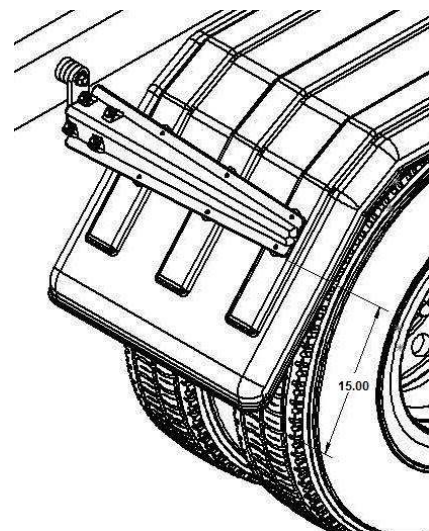

Figure 8
- D. If possible, position the mounting brackets so they are located within 15" of the bottom of the fender. This protects against wind blowing the leading edge of the fender back into the tire (Figure 8).